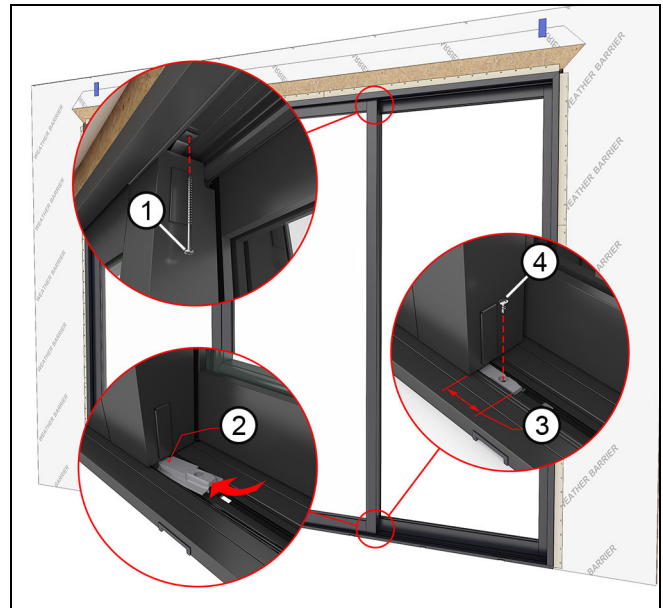

Figure 122
13. Snap the lower stationary bracket onto sill, slide underneath the panel until fully seated. Bracket should stick out approximately 2 1/4" from the panel when fully seated. Secure with a #8 x 1/2" Phillips self-drilling screw through the bottom stationary bracket into the sill. See Figure 122 (2, 3, and 4).
14. Bend top stationary bracket of (C) stationary panel up against the head jamb, pre-drill a 3/16" hole through the head jamb using the bracket as a template. Fasten through the bracket into the head jamb framing with a #10 x 3" installation screw. Shim as needed taking care not to bow the head jamb. See Figure 122 (1).